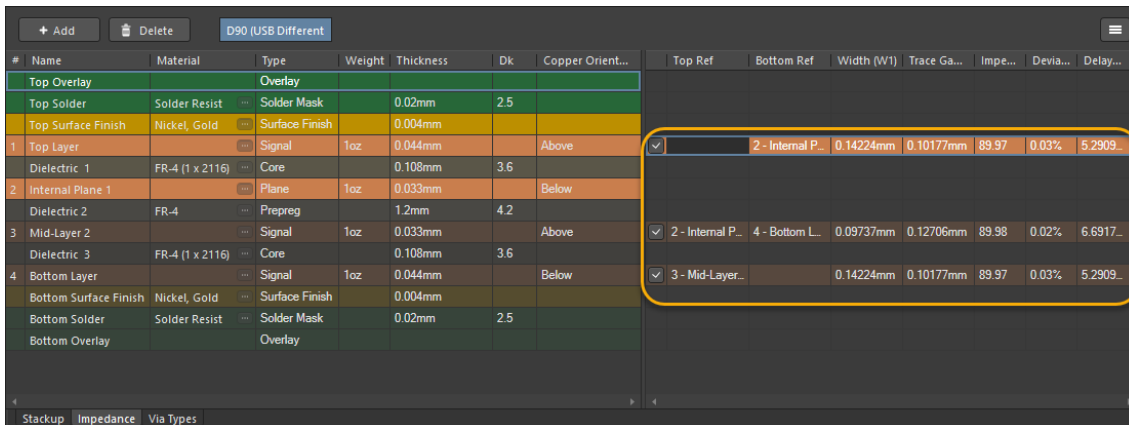

Figure 16. Routing Layers
24. Select the individual routing layers from the layer stack table one layer at a time, to see the track and gap calculations in the *Properties* panel, as shown in Figure 16. and Figure 17